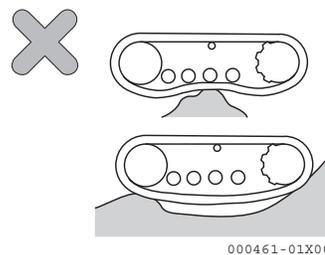

Fig. 3-61
- The three cases illustrated above are those which could cause the rubber crawlers to loosen. In addition, do not subject the machine to such ground conditions as are illustrated in the figure on Fig. 3-61.